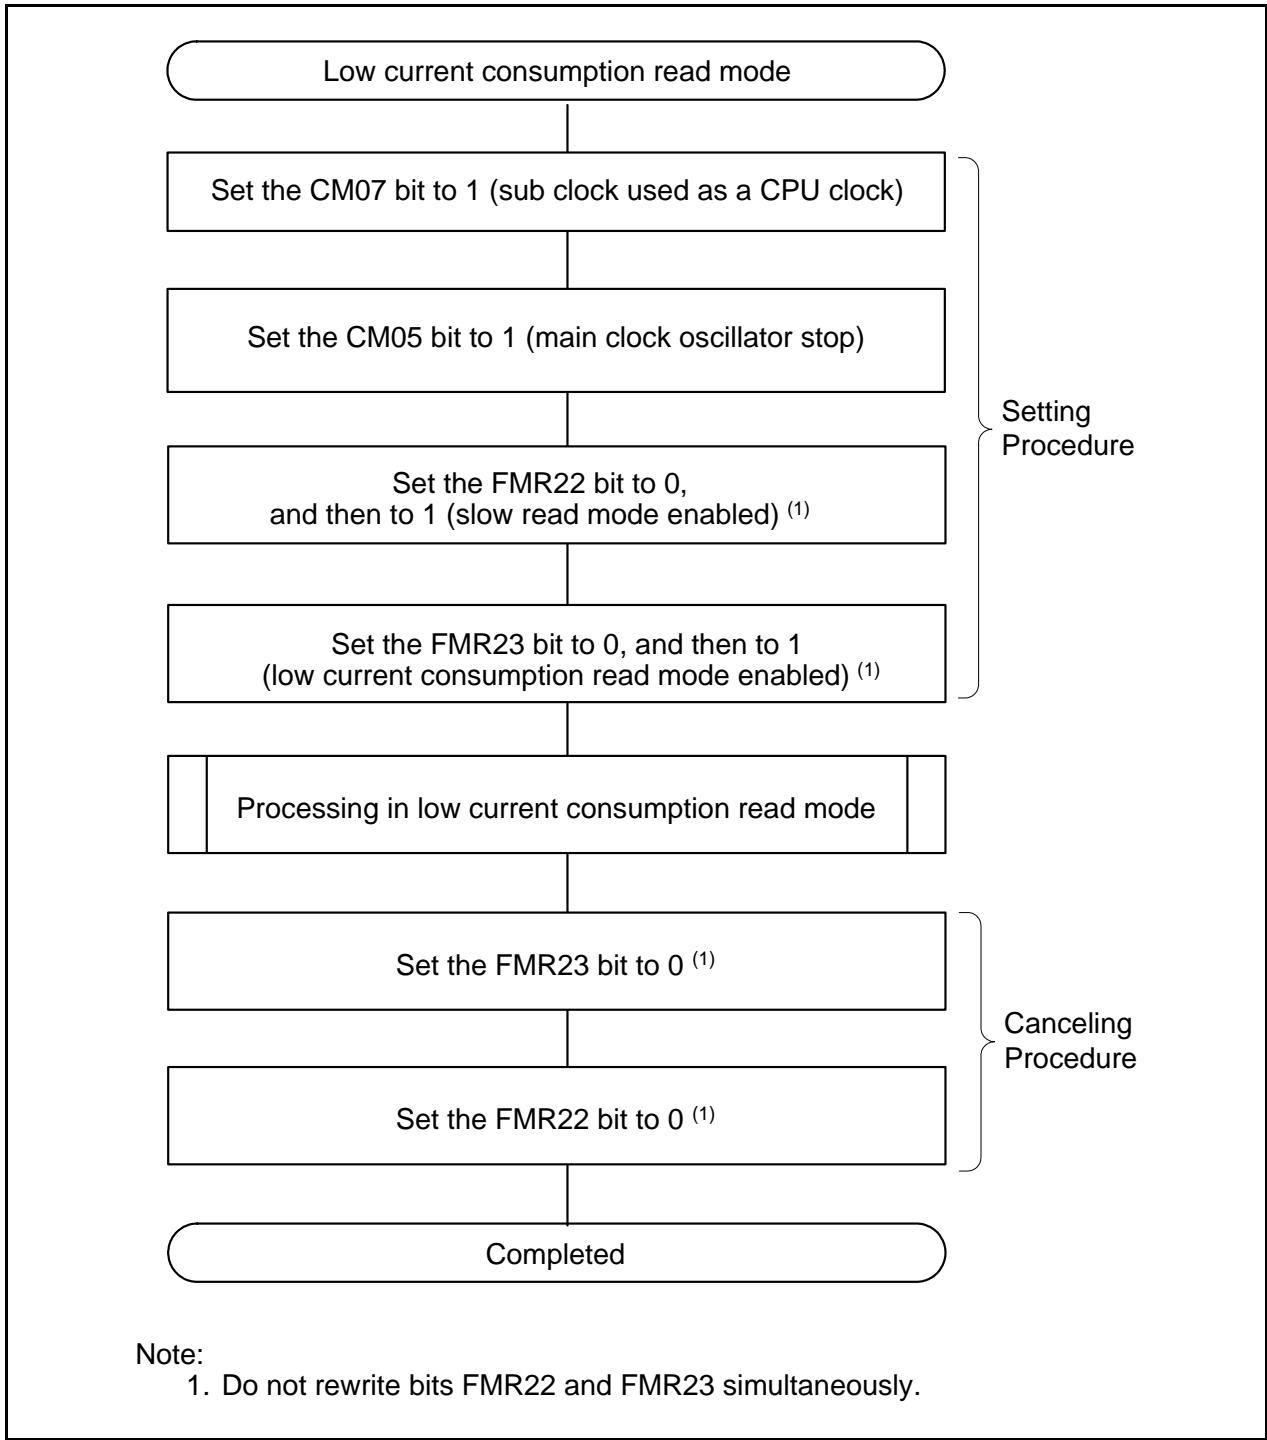

Figure 9.5 Setting and Cancelling Low Current Consumption Read Mode
Low current consumption read mode can be used when the CM07 bit in the CM0 register is 1 (sub clock used as CPU clock). Figure 9.5 shows Setting and Canceling Low Current Consumption Read Mode.
- Enter low current consumption read mode through slow read mode (see Figure 9.5 “Setting and Canceling Low Current Consumption Read Mode”).